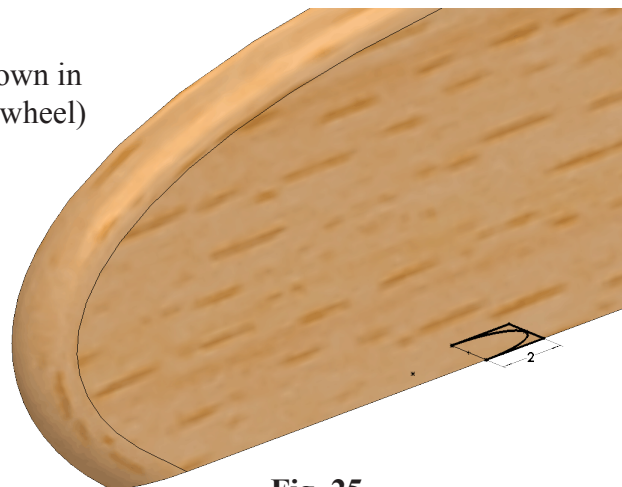

Fig. 25
Step 1. Rotate view to view **side of Fuselage** as shown in **Fig. 25**. Hold down middle mouse button (wheel) and drag.